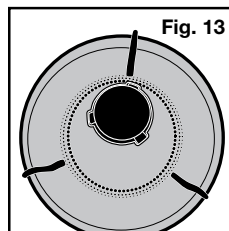

Fig. 13
4. Take the other two plastic cord clips and attach them to the bowl so that the three clips together form the three points of a triangle (**Fig. 13**). This will lock the cone in place.